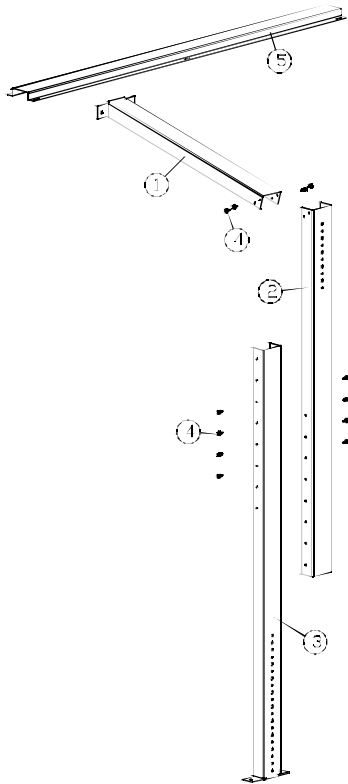

Figure 1
1. Locate and identify the parts as shown in Figure 1. These parts are set up to be adjustable for different wall heights and can be assembled in height increments of three inches as shown in Figures 1 and 2.
4. Assemble each support section as shown in Figure 1 using the 1/4 x 5/8 sheet metal screws provided.